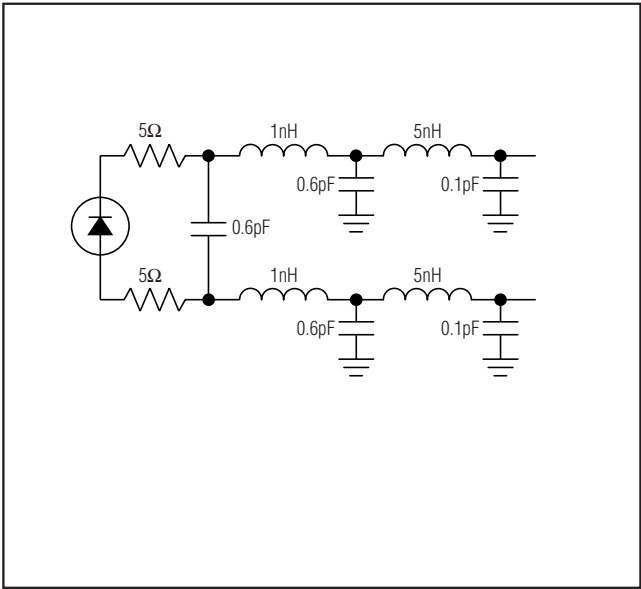

Figure 2. Photodiode and Header Model
**Note 6:** Includes the effects of a packaged photodiode having the characteristics shown in Figure 2.
The optical input circuit includes photodiode bias circuitry, an op amp to adjust VAGC according to the DC photodiode current (for AGC operation), an output balun, and a 75 $\Omega$  output connector. Through-hole pads are provided to attach the triplexer analog photodiode leads. Since photodiode capacitance and package lead inductance affect the amount of uptilt, in configurations where lead inductance is significantly lower than the value shown in Figure 2, the uptilt may be increased by providing discrete inductance on the PC board. When a  $C_{PD} = 0.5\text{pF}$  (typ) photodiode is mount-